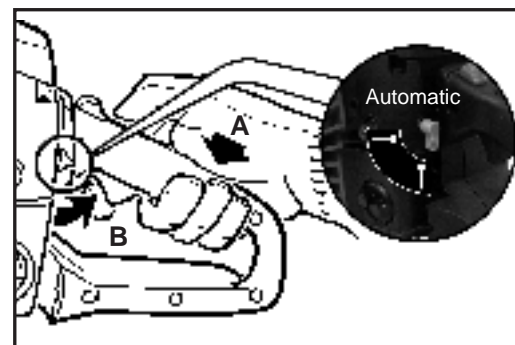

Fig. 6
6. When engine starts, warm up 10 sec. Then depress safety/throttle trigger. The automatic choke will disengage when trigger is pulled (Fig. 6).